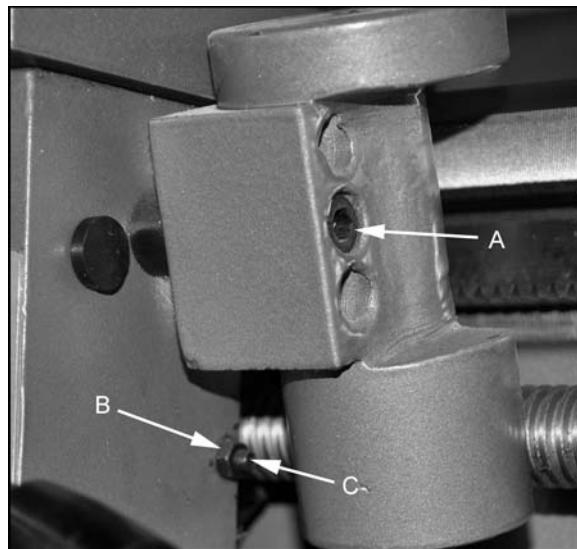

Figure 28
1. Remove the thread dial assembly by unscrewing the screw (A, Fig. 28).
2. Loosen three hex nuts (B, Fig. 28) found on the side of apron, and turn three set screws (C, Fig. 28) equally with a hex wrench.